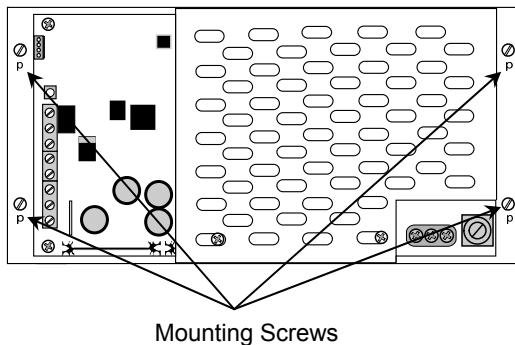

Figure 28 - AX-PSU-6 Power Supply Charger Module
If replacing the AX-PSU-6 power supply charger remove power (AC and battery) from the system. Remove the AC, battery, 24 VDC output and relay trouble contact wiring from the AX-PSU-6. Remove the four (4) screws [p] securing the AX-PSU-6 to the back box and remove the AX-PSU-6 (see figure 28). Position the new AX-PSU-6 module onto the back box standoffs and secure with the four (4) removed screws [p]. Replace the removed AC, battery, 24 VDC output and relay trouble contact wiring and reconnect AC and battery power to the system.